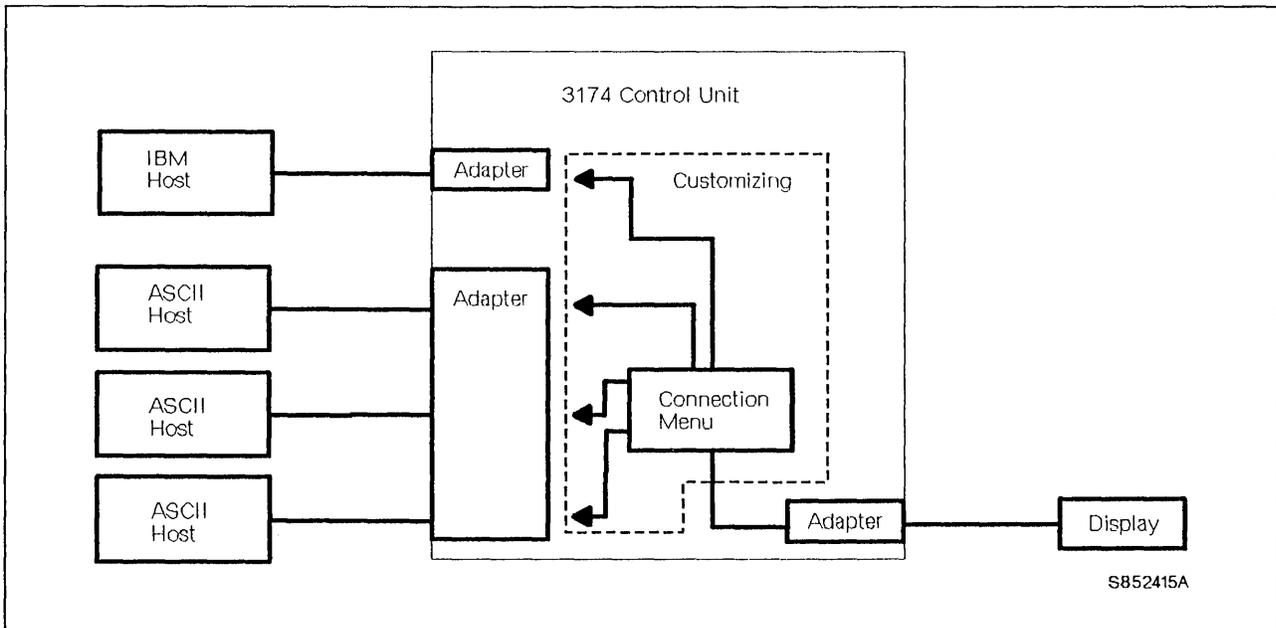

Figure 14. Connection Menu Option 2
2. The terminal user may be presented the Connection Menu and be allowed to select any one of the hosts from the list. See Figure 14.